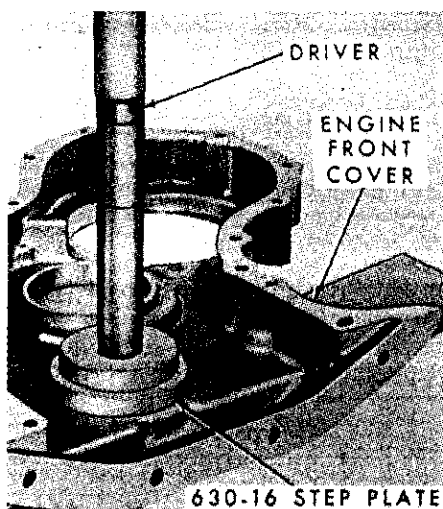

Fig. 90—Installing the crankshaft front oil seal in engine timing gear cover.
97. FRONT OIL SEAL. Crankshaft front oil seal is mounted in timing gear cover and cover must be removed to renew seal. Timing gear cover removal procedure is outlined in paragraph 77 or 80. To renew seal, drive dust seal and oil seal out towards inside of timing gear cover. Install new dust seal in timing gear cover first, then using a seal driver (OTC No. 630-16 step plate or equivalent), install new oil seal in cover with spring loaded lip towards inside of cover. Refer to Fig. 90.